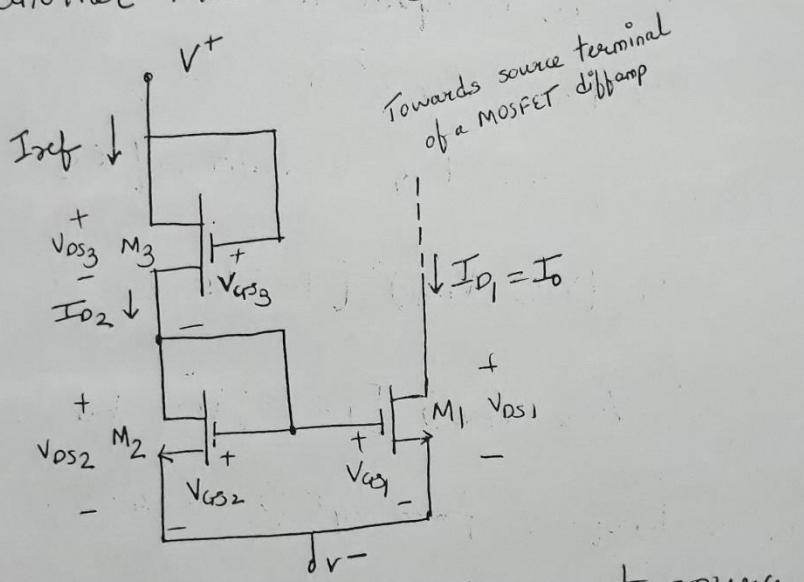

Fig 7.1 → Three-transistor MOSFET current source.
- The reference resistance R_i in fig 7.1 can be replaced by another MOSFET M_3 as shown in fig 8.1.
$$I_o \approx I_{D1} \quad (\text{From fig 7.1})$$